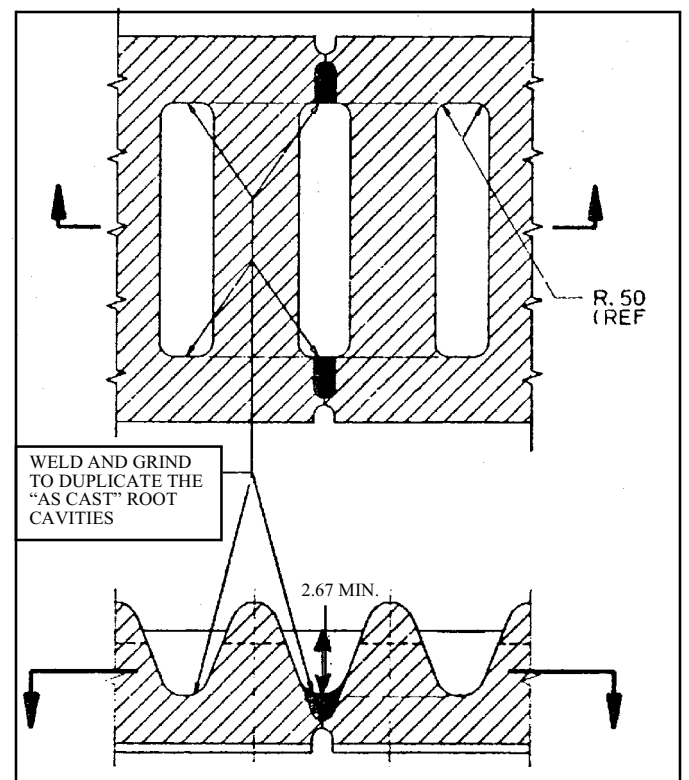

Figure 6-35. Inside Welds
7. Make the welds shown in Figure 6-35.
5. Do the welding, air-arcing, and inspection shown in Figures 6-35, , 6-36, and 6-37. The welding and air-arcing on the underside of the rack cannot be done because there is no access to the underside of the rack when it is on the dipper handle.